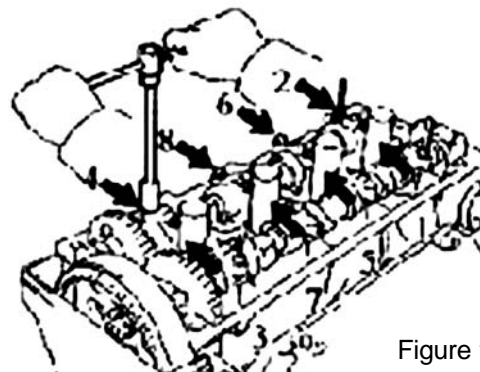

Figure 14
- (4) Uniformly loose and remove 8 bearing cap bolts in several passes as shown in the figure. See (Figure 14).
- (5) Remove 4 bearing caps and camshafts.